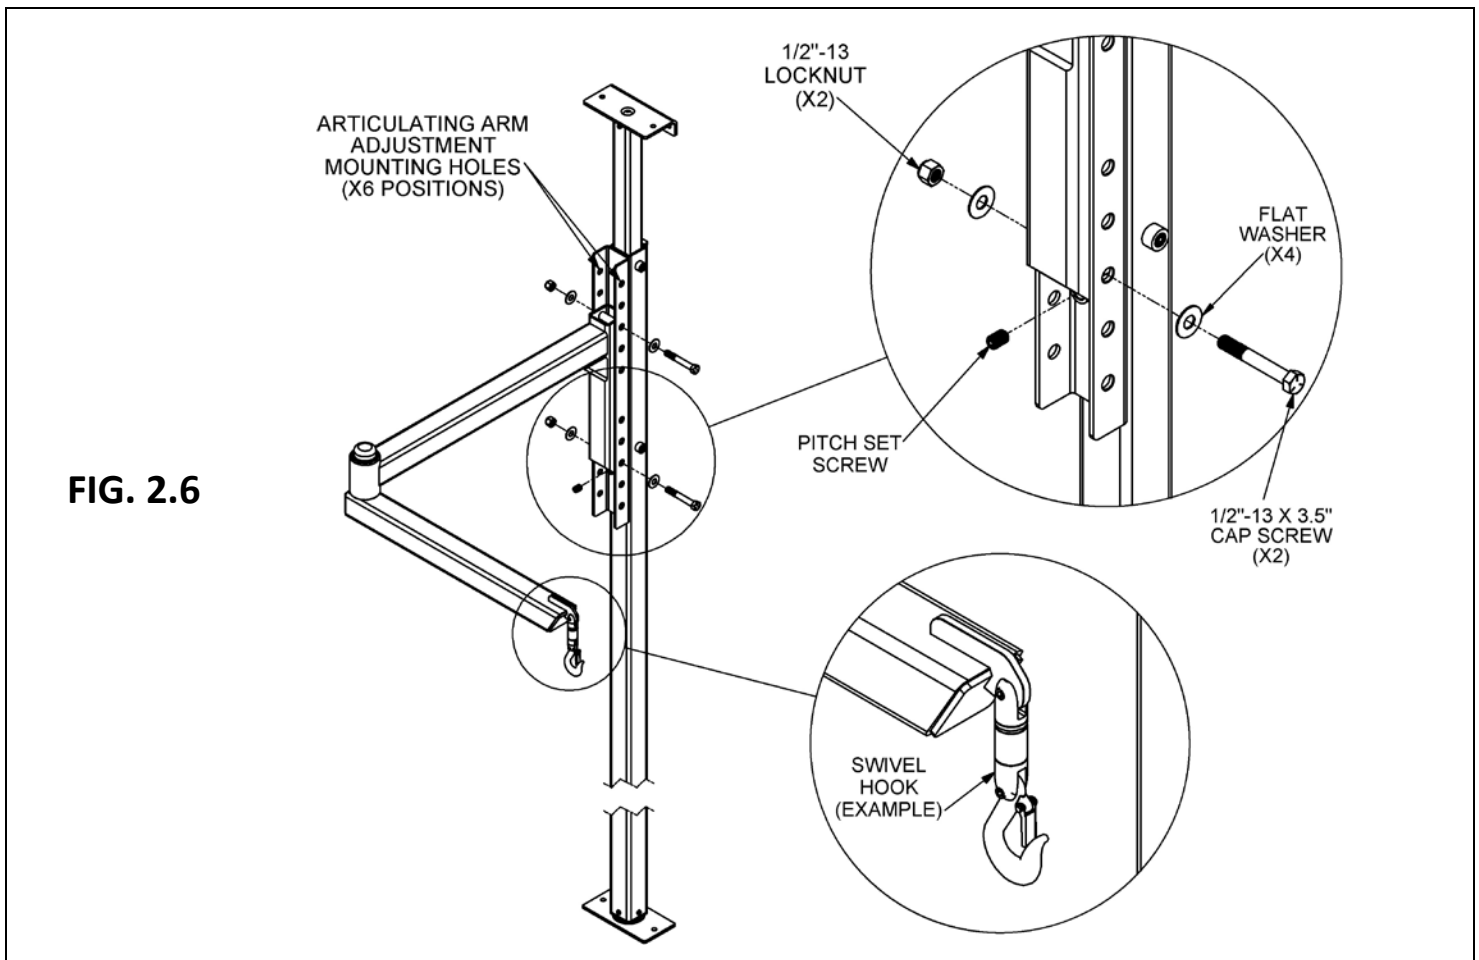
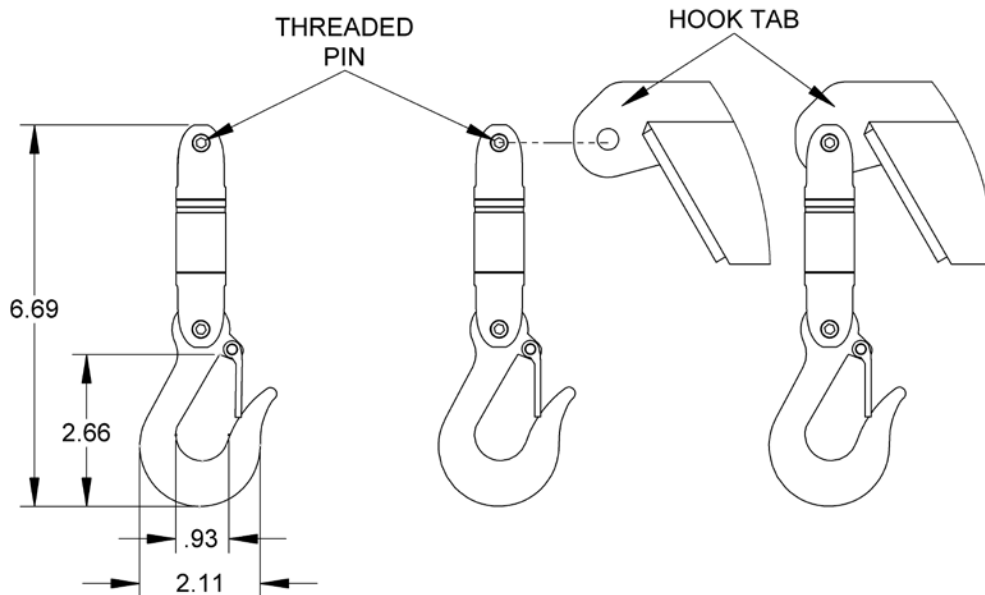

FIG. 2.6
FIG. 3.1
✎ The Articulating Arm Hanger (FIG. 2.1 and FIG. 2.6) features 3 adjustable height positions for the Articulating Arm, allowing the flexibility to set vertical clearance as needed.
2.2.3 The Articulating Arm fits inside the Articulating Arm Hanger (FIG. 2.6) and is bolted in place. After determining the working height of the Articulating Arm, secure the Articulating Arm into 2 of the pre-drilled mounting holes using the following supplied hardware:
2.3.2 Level the Articulating Arm (with Torpedo Level) by adjusting the 1/2" Pitch Set Screw (FIG. 2.2, FIG. 2.6, and FIG. 2.8).
2.4.1 The 1/2" Brake Set Screw (FIG. 2.1, FIG. 2.6, and FIG. 2.7) increases/decreases Stanchion rotational drag.
- 3.2 Using a 5/32" Allen Wrench, remove the Threaded Pin and then slide the Swivel Hook over the Hook Tab (FIG. 2.1, FIG. 2.6, and FIG. 3.1). Reinstall the Threaded Pin and tighten.